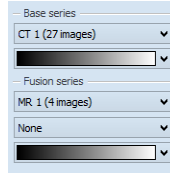

Figure 295 – Series and color map selection
1. Click the **Base series** combo box to select the primary series (see Figure 295).